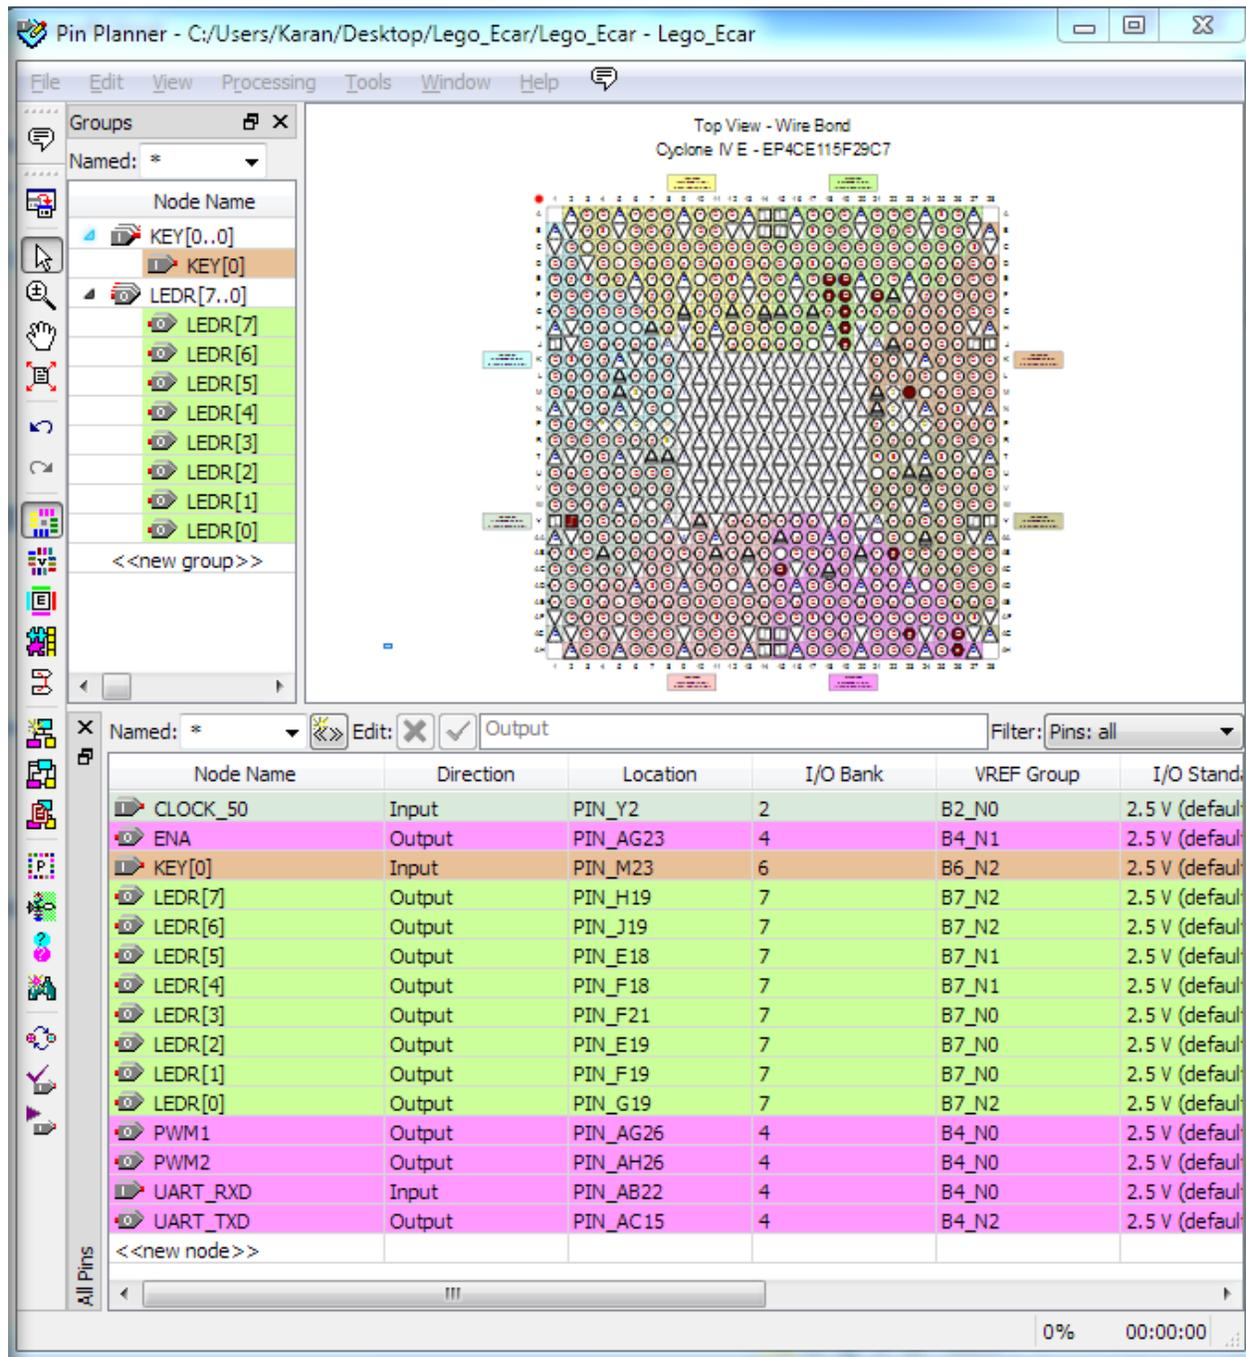

Figure 1-62
41. Input Location value as shown in Figure 1-62.